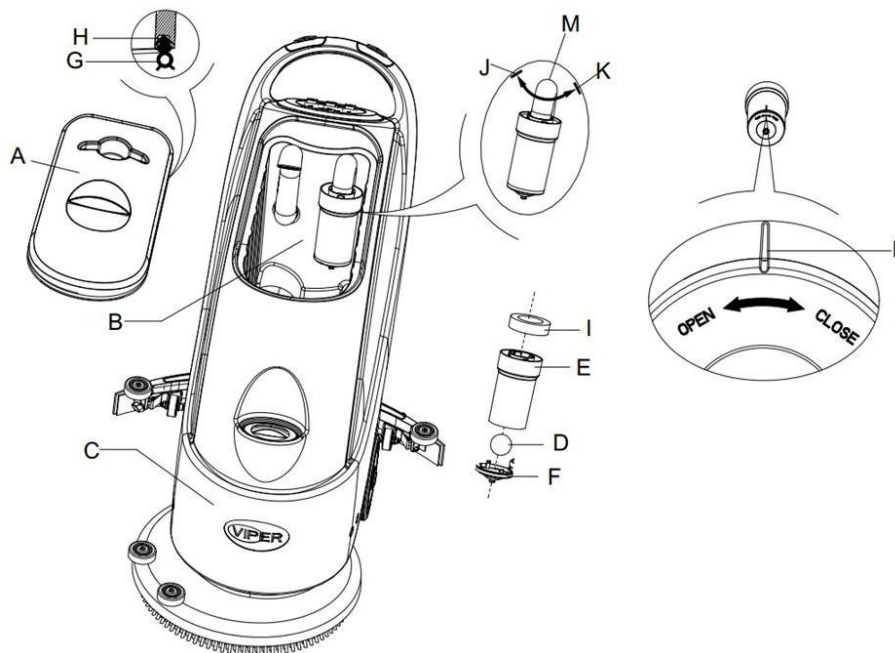

Figure 11
2. Press the power switch (38) to the position “O” to turn off the machine.
3. Open recovery tank lid (A, Figure 11), and remove the float device (36) from inside the tank.
4. Use clean water to rinse the recovery tank lid (A), the tank (B and C), and the float filter support frame (E). Drain all the water from the water tank.
5. If necessary, following the symbols “Open” and “Close” as shown in Figure 11, open the bottom lid (F) of the float filter and clean the float (D), float filter support frame (E), and the filter sponge (I). After cleaning, re-attach the float onto the support frame (E), and then align the mark groove (L) of the bottom lid (F) of the float filter with the mark groove (L) of the float filter support frame (E). Turn the bottom lid (F) of the float filter tight, and re-attach the filter sponge (I) onto the support frame (E), and then onto the vacuum tube (M).
6. Inspect the seal / gasket (G) of the recovery tank lid.
If necessary, If necessary, the recovery tank seal / gasket (G) may be taken out from the groove (H) and changed. When installing the new seal / gasket as shown in Figure 11 below, install the
7. Check if the receiving surface of the sealing strip (G) is intact and seals adequately.
8. Close recovery tank lid (A).